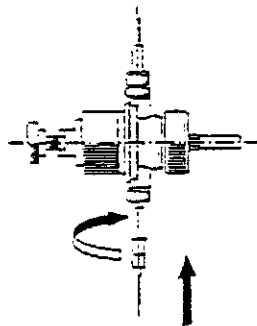

FIGURE 6
3. Install Dispensing Needle into Luer Lock Fitting on exit side of (7) Pinch Tube on Valve with twisting action (refer to figure 6).